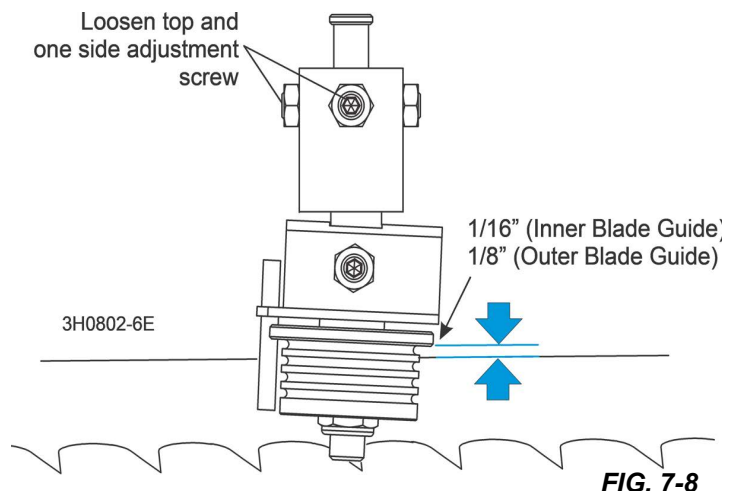

FIG. 7-8
2. Loosen the top and one side screw shown. See FIG. 7-8.